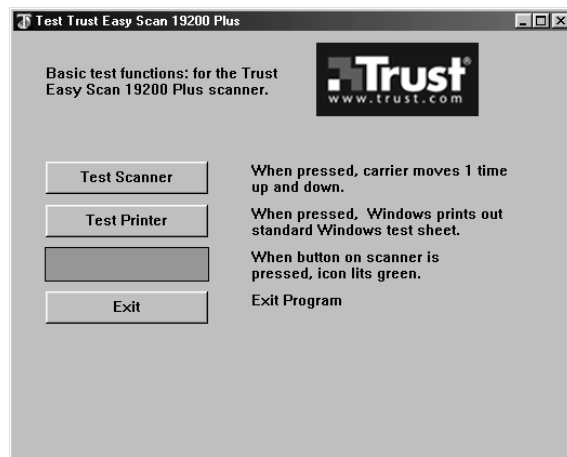

Figure 29: Test Program
1. Start the 'Trust Scanner Test Program'. (Start - Programs - Trust Easy Scan 19200 Plus - Test Program). A screen as in Figure 29 is displayed.